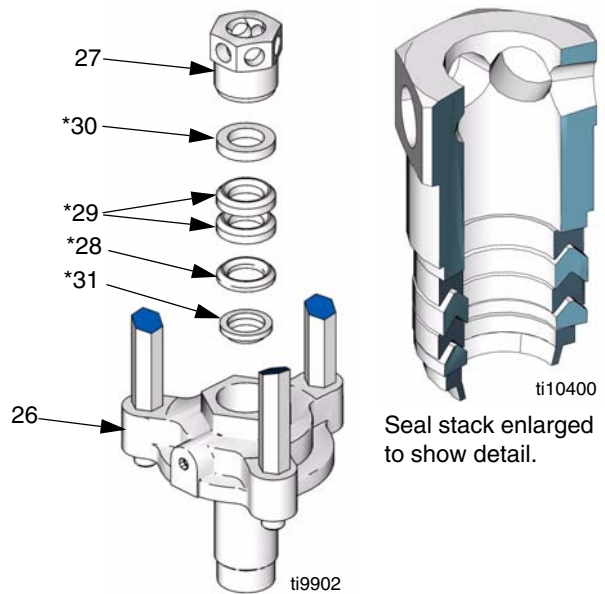

FIG. 24
- Remove hex nut (27) from mounting flange (26). Remove female gland (30*), 2 PTFE packings (29*), male gland (28*) and wiper (31*). Inspect all parts for damage. See FIG. 24.